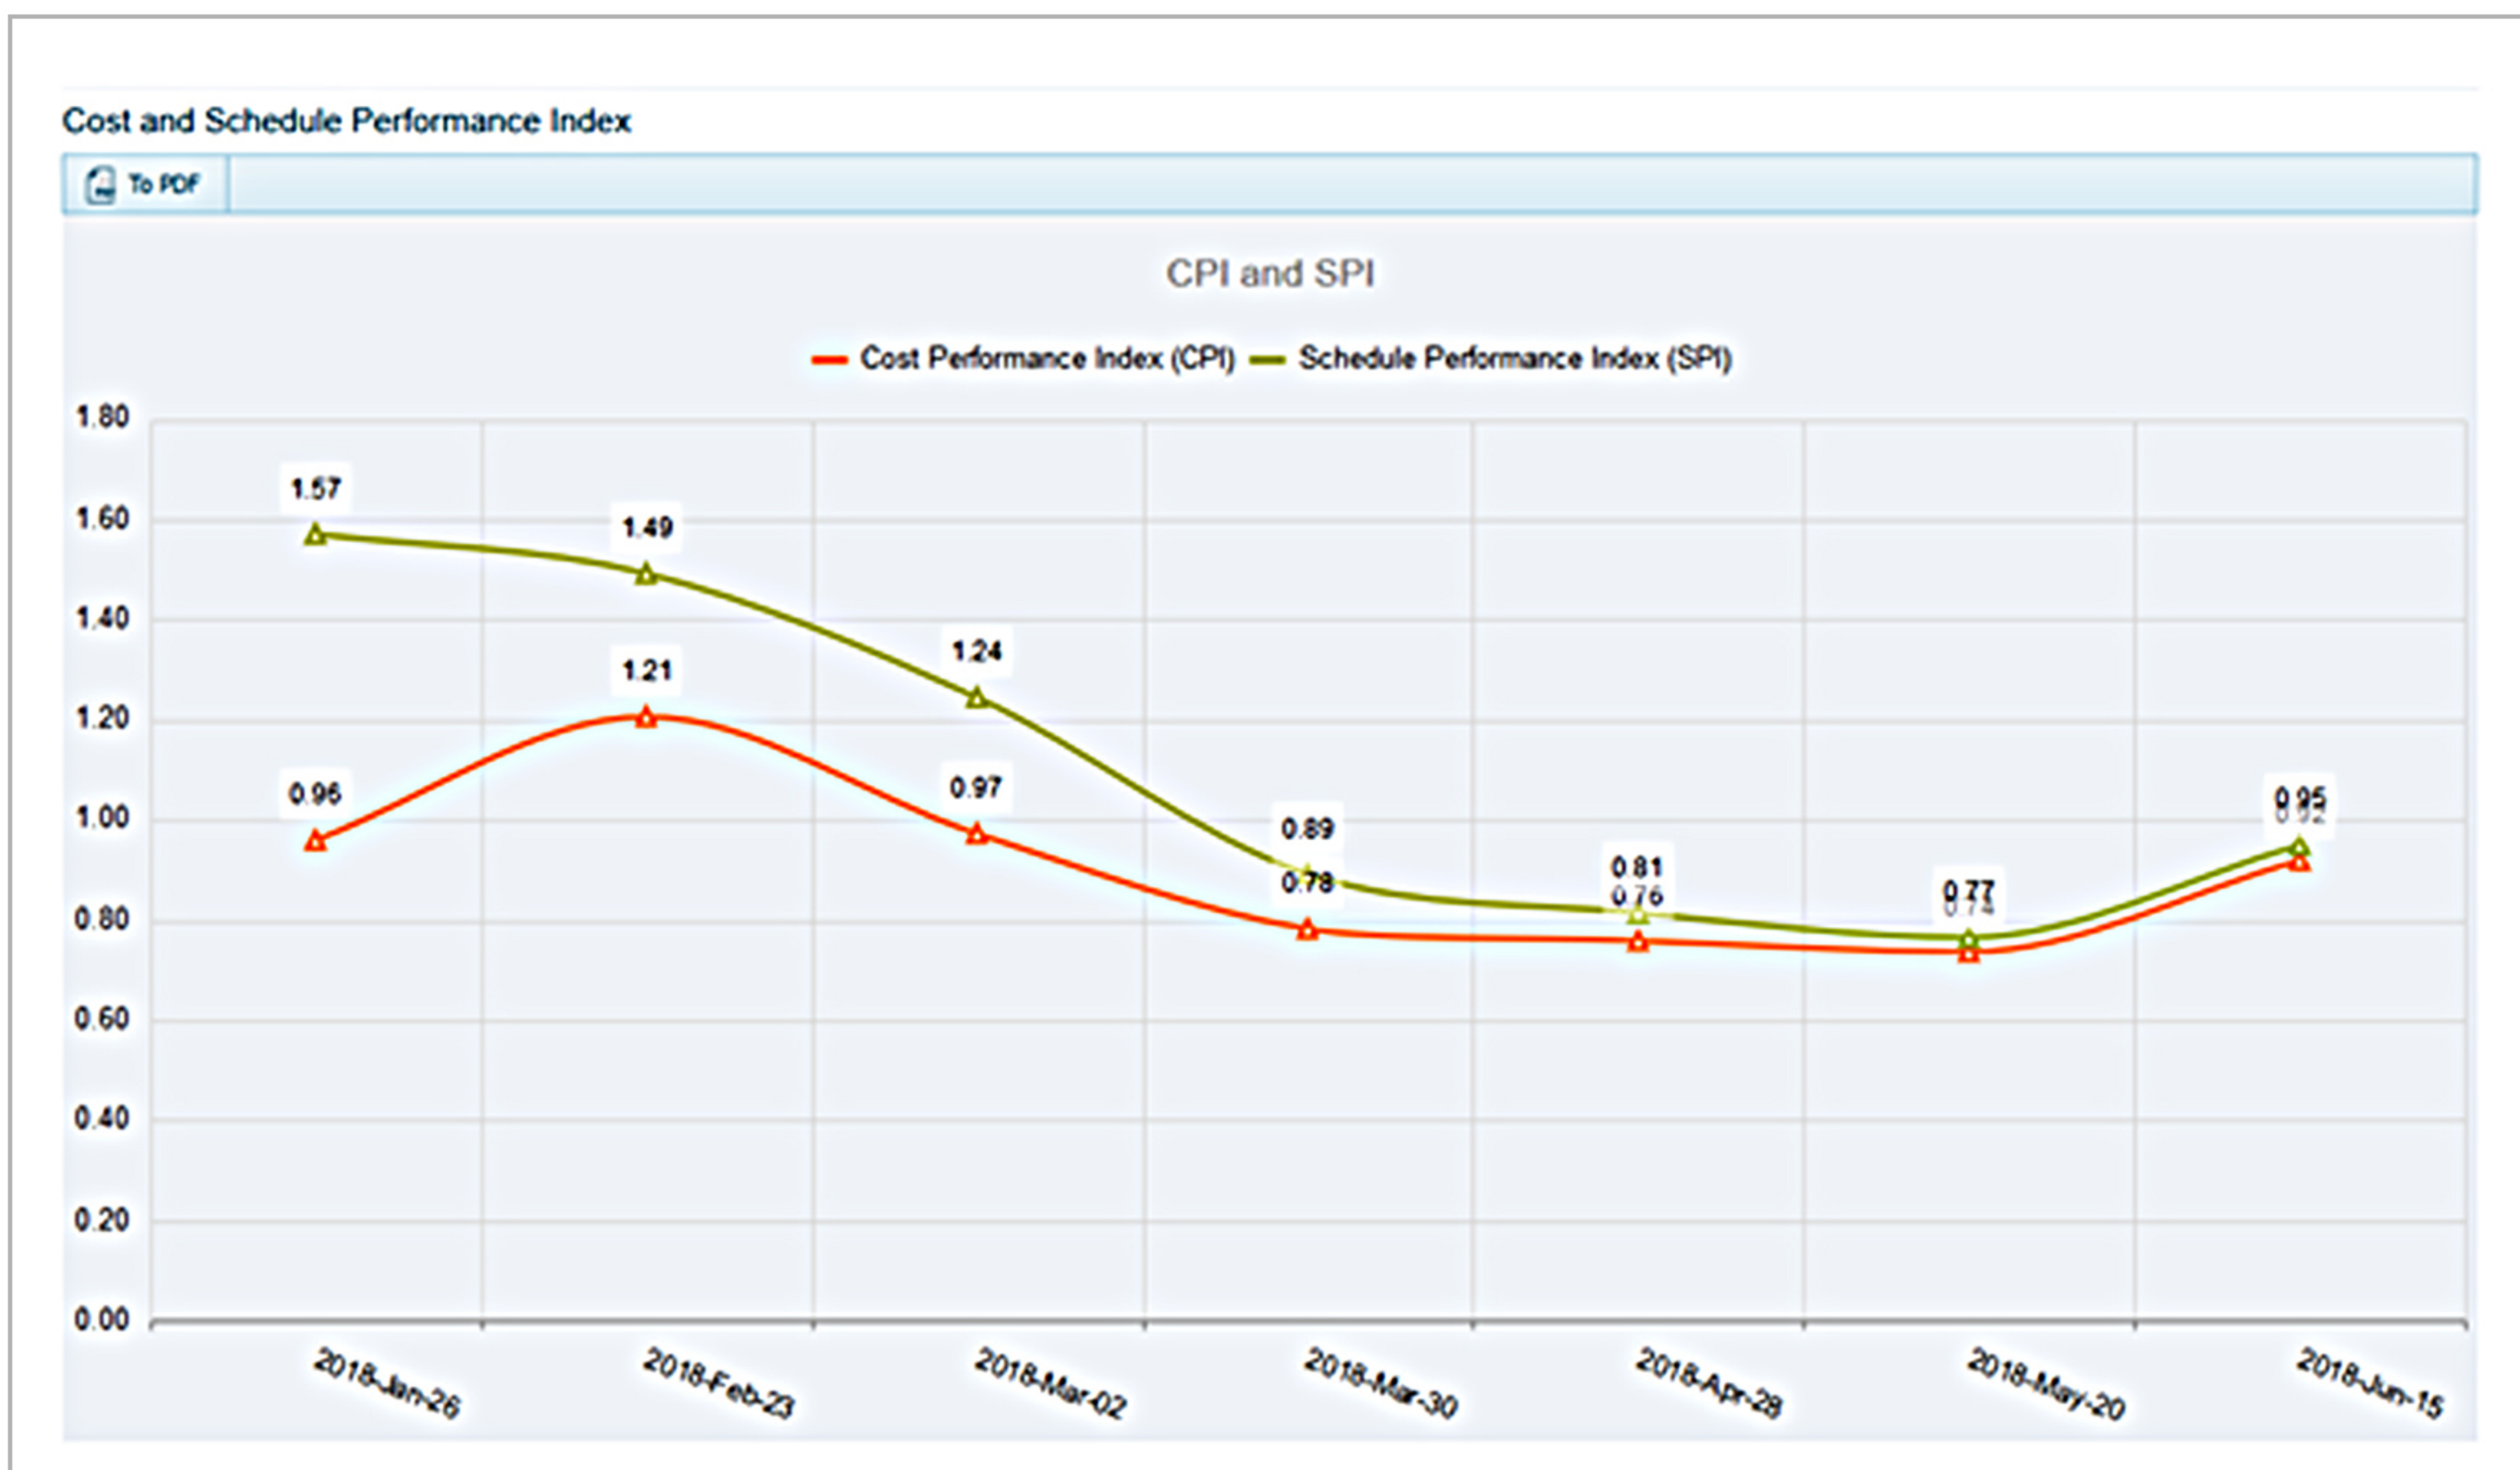

Figure 5 - Sample Trend Patterns for CPI and SPI
- Compare metrics like percent complete and CPI against the previous reporting period(s) to see how this activity has been trending. Have a look at the trend lines in Figure 5 below for an example of how CPI and SPI can vary over the project's reporting periods.